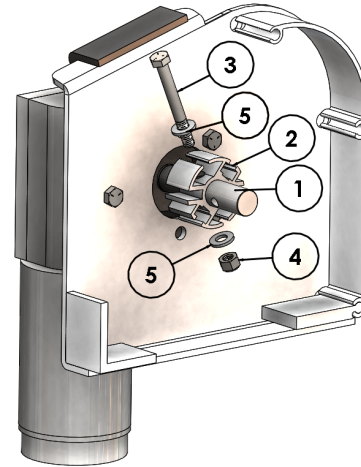

Figure 5.4
Rotate tarp axle (2) to align mounting hole on motor shaft (1) as shown in cut-away view (Figure 5.4). Drill 5/16" diameter hole through tarp axle in alignment with motor shaft hole. Insert 5/16-18 x 2.75" long hex bolt (3) and 5/16" flat washer (5) through tarp axle and motor shaft. Secure with grade 5 5/16-18 nylock hex nut (4) and 5/16 flat washer (5).